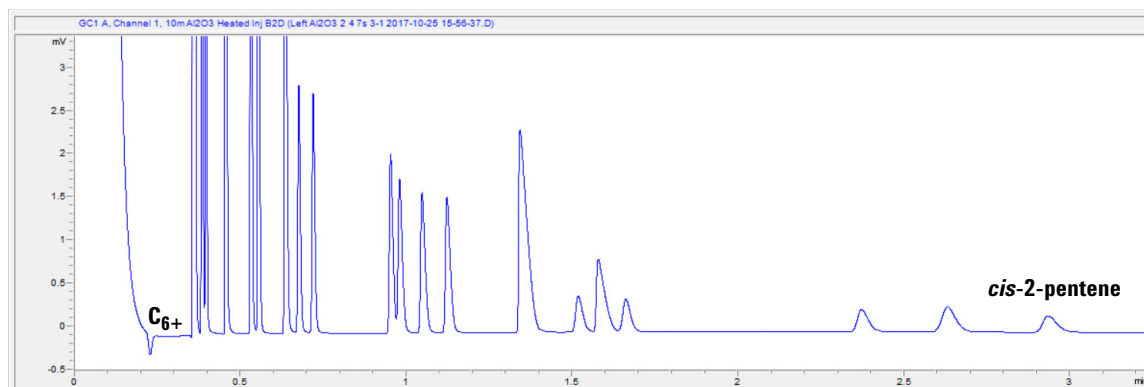

Figure 39 10m Al₂O₃ Column for refinery gas analysis
- 1 Set backflush (BF) time to 0 sec. Run method to obtain the peaks of all eluted components. Record the retention time (RT) of *cis*-2-pentene and *n*-hexane.
- 4 Finely tune the BF time, find the data point when the *n*-hexane peak is observed. Decrease BF time by 0.1 sec steps, and start a run until the peak disappears (peak height < 3 μV). Set BF time for this channel to that value minus 0.4 sec. A typical “clean cut” time range of 10m Al₂O₃ BF2D channel is approximately 1-2 sec. (See Figure 39 on page 85.)